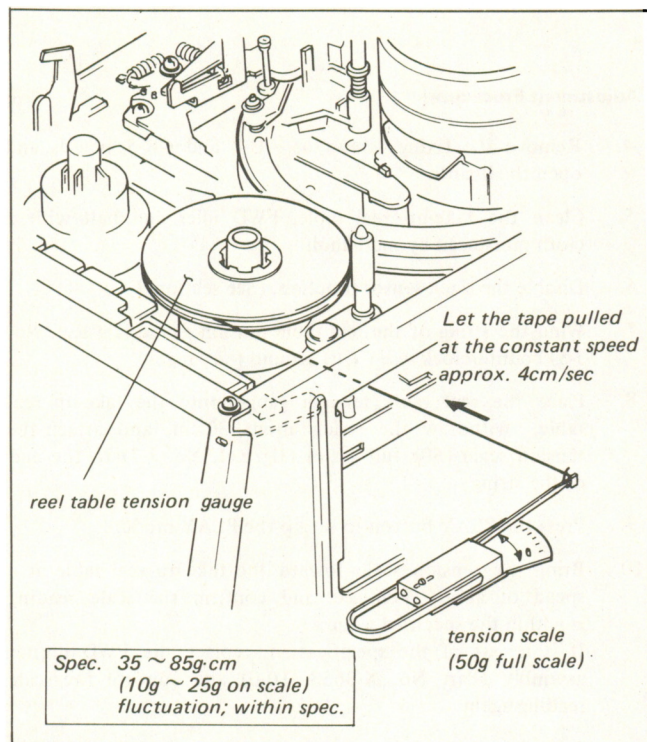

Fig. 7-2. Eject torque check
6. Bring the tension gauge toward the take-up reel table at a speed of about 4 cm/sec. in the unthreading operation as shown in Fig. 7-2. Confirm that the gauge reading is within the specified value.